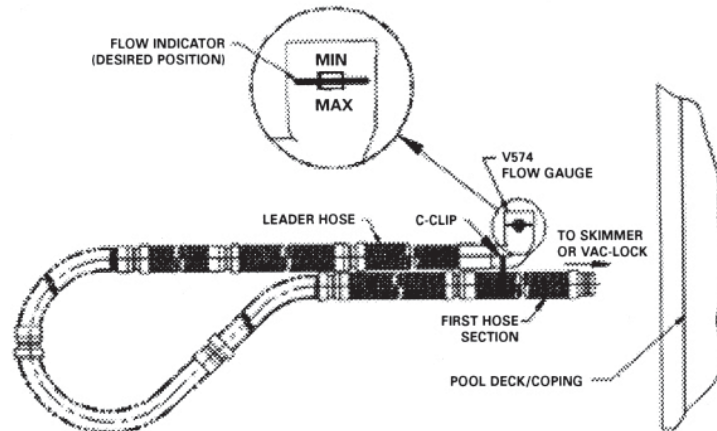
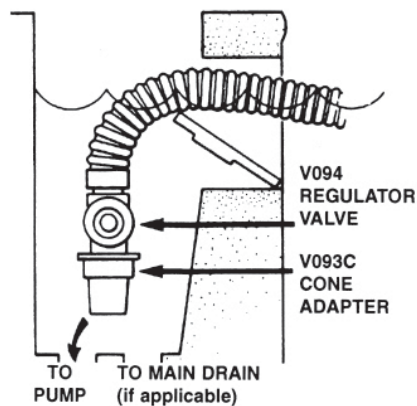

Figure 2
Figure 4
The hose should reach from the skimmer or Hayward Vac Lock® to the furthest point in the pool, **plus two (2) extra hose sections.** (The length of each hose section is four feet.) **This extra length is absolutely necessary for proper operation of the Navigator.** If the hose is not long enough, it will be necessary to purchase additional hose sections from your Hayward Navigator dealer. The hose length supplied (40 feet) has been determined to be sufficient for the majority of pools nationally. If your hose requirement is more than this, you must obtain additional hose sections for your cleaner to work properly. After the correct hose length has been assembled, fill hose completely with water. Insert Flow Gauge into the leader hose, then attach the C-Clip of the gauge onto the first hose section. Make sure the Flow Gauge is under water. (see Figure 2)
Check the water flow reading on the Flow Gauge. (Refer to Step 4, Figure 2). The black disk should be in the box between the "MIN" and "MAX" markings. If the setting is higher than required with the black disk outside of the box on the "MAX" side and you have connected your hose to the skimmer, it will be necessary to reduce the vacuum/water flow by using a valve or valves in the filter system, or the Hayward V094 Regulator Valve or an optional Hayward Automatic Skimmer Vacuum Plate designed to adjust vacuum/water flow. To install the V094 Regulator Valve, turn the filter system off. Remove the hose from the V093C Skimmer Cone, and after closing the Regulator Valve (Rotate the blue collar clockwise/toward + until closed/tight), insert the Regulator Valve into the Skimmer Cone, and insert the hose end into the Regulator Valve (see Figure 4).
If you have connected your hose to the Hayward Vac Lock, it will be necessary to adjust the vacuum/ water flow using the 3-way valve at the filter system. The handle on the valve should be turned so that the Flow Gauge which is installed in the Navigator hose reads properly (refer to Figure 2). After the 3-way valve has been properly adjusted, **the vacuum gauge at the 3-way valve should be marked so that the water flow can be adjusted by referring to the gauge at the valve**, rather than reinstalling the Flow Gauge in the hose each time an adjustment is necessary.
Some skimmers have two (2) holes in the bottom. There might be a valve, float or cover over the holes. Remove everything in the skimmer, exposing the holes. The rear hole is usually the suction port. In some cases it will be necessary to use the V094 Regulator Valve to control water flow through the Navigator (*see Figure 4*).